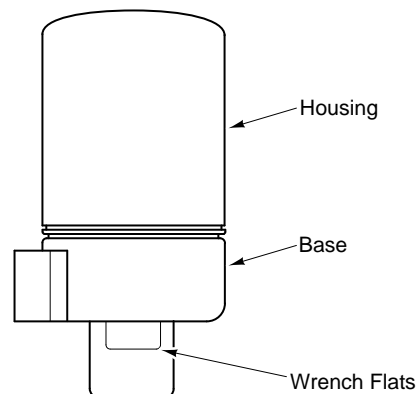

Figure-2 Housing and Base Location.
**Caution:** Do not twist or exert any force on the actuator housing during installation. Either turn the base by hand or, if necessary, use a 1-5/8" open-ended wrench (TOOL-37) on the flats provided on the actuator base or the valve body mounting nut. Refer to Figure-2.
**Caution:** Do not twist or exert any force on the actuator housing during installation. Either turn the base by hand or, if necessary, use a 1-5/8" open-ended wrench (TOOL-37) on the flats provided on the actuator base, or on the valve body mounting nut. (Refer to Figure-2)